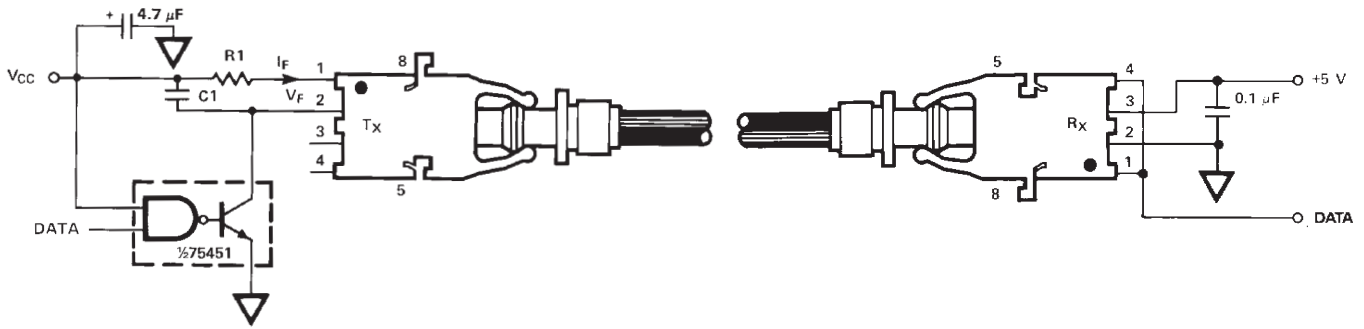

Figure 11. Required 1 Mbd interface circuit
The HFBR-25X2Z receiver cannot be overdriven when using the required interface circuit shown in Figure 11
- The LED drive circuit of Figure 11 is required for 1 Mbd operation of the HFBR-25X2Z/25X4Z.